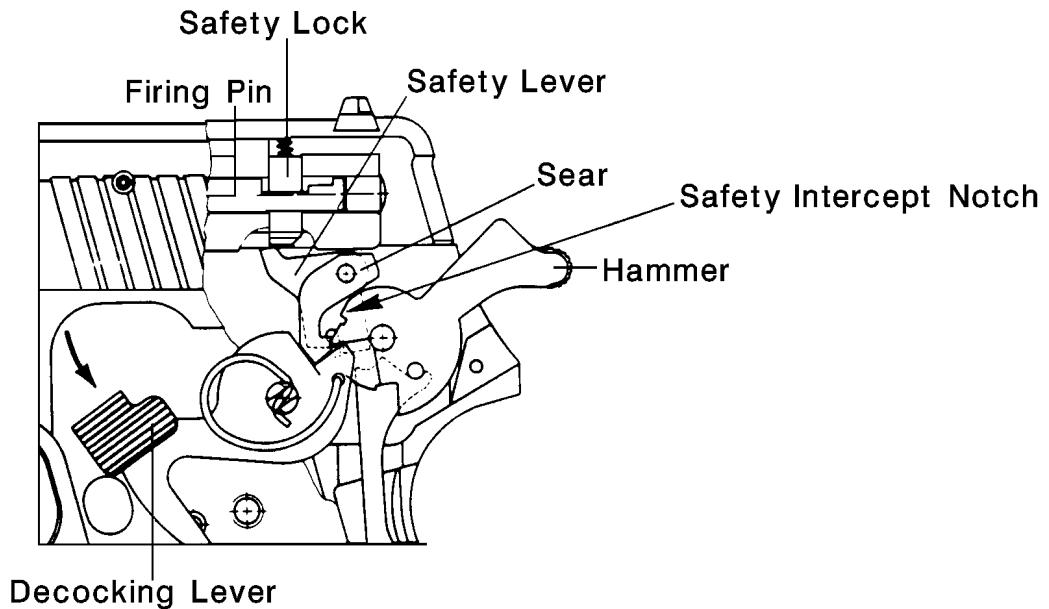

Figure 3 - Double Action Mode
1. Decocking lever and hammer safety notch (See Figure 3).